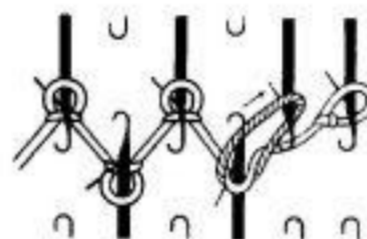

Fig. 76
- Pick up a loop from the next stitch one row below and place it in the empty second needle. (Fig.76)